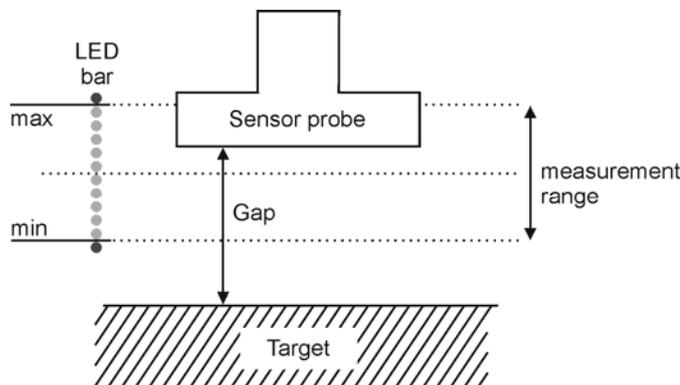

Fig. 6: Relation of LED bar and measurement range
8. The LED bar shows the current position of the sensor probe in relation to the target and the selected measurement range. If one or both of the two middle LEDs glow amber the sensor probe is within 5 to 10% of the mid-range distance (see Fig. 6)